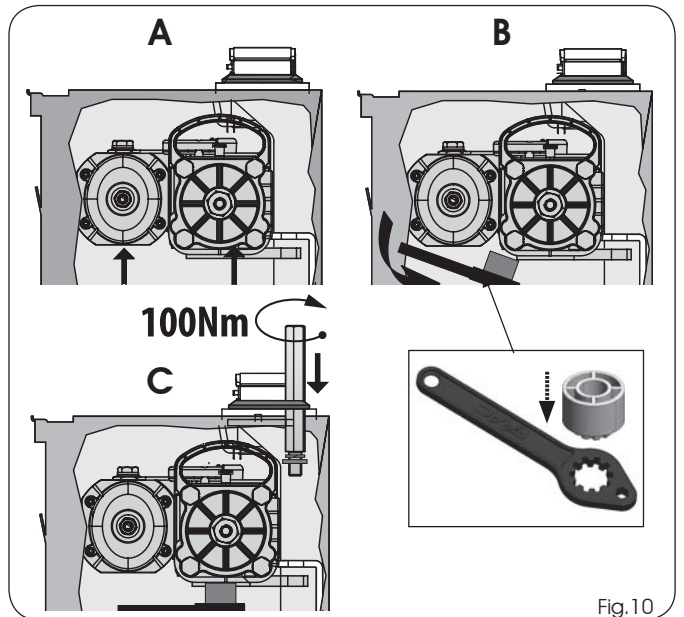

Fig.10
- 10) Lift the operator using the specific panels (Fig.10 ref.A), and insert the pinion in the splined bush of the support box. To facilitate the operation, turn the operator until they couple.
- 11) Position the supplied key beneath the operator as shown in figure 10 ref. B to support the engine.
- 12) Insert and screw the fixing screws with the groove as shown in figure 10 ref. C, to secure the operator to the support box, as in figure 11.